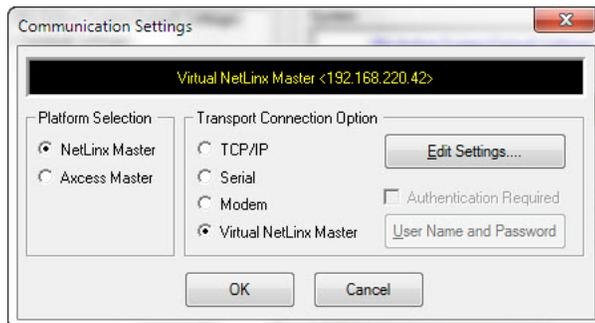

FIG. 30 Communications Settings dialog
2. Click the **Communications Settings...** button to open the *Communications Settings* dialog box (FIG. 30).